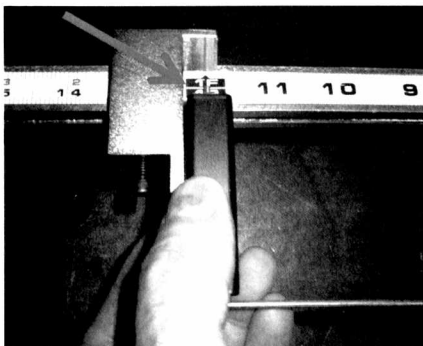
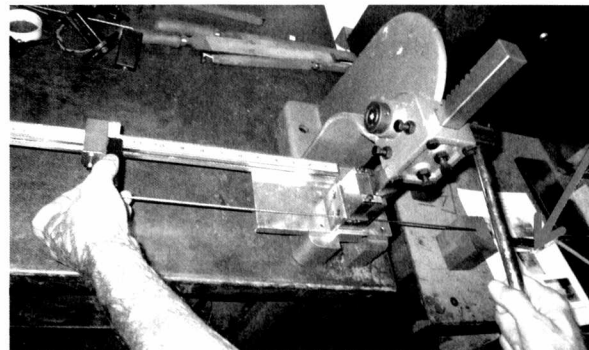

Figure 4.
Figure 5.
- 5.) Place the float against the float stop (Figure 4). While holding the float against the float stop with one hand, use the other hand to pull the handle on the Float Rod Cutter all the way down (Figure 5). Verify that the part is cut to the correct length per the "Cut Length" chart.